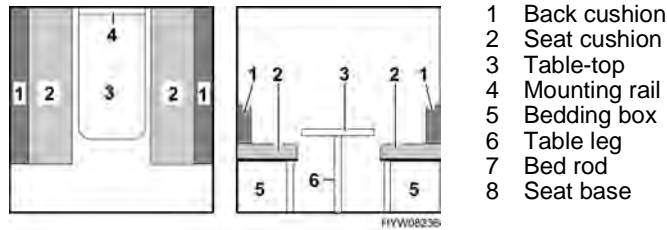

Fig. 45 Prior to conversion
- Slightly raise the front of the table-top (Fig. 45,3).
- Loosen the table leg (Fig. 45,6) out of the locking device and fold it against the bottom of the table.
- Lift the table-top by approx. 45°, remove it out of the mounting rail (Fig. 45,4) and lay it aside. The table is not required for the sleeping conversion.
- Remove both seat cushions (Fig. 45,2) and lay them aside.
- Remove both back cushions (Fig. 45,1) and lay them aside.